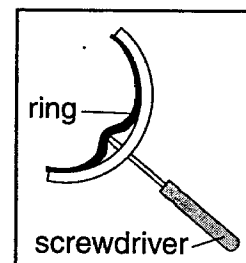

Figure 6
7. Push screwdriver through hole on the side of the wheel head to remove drive ring from groove (figure 6).